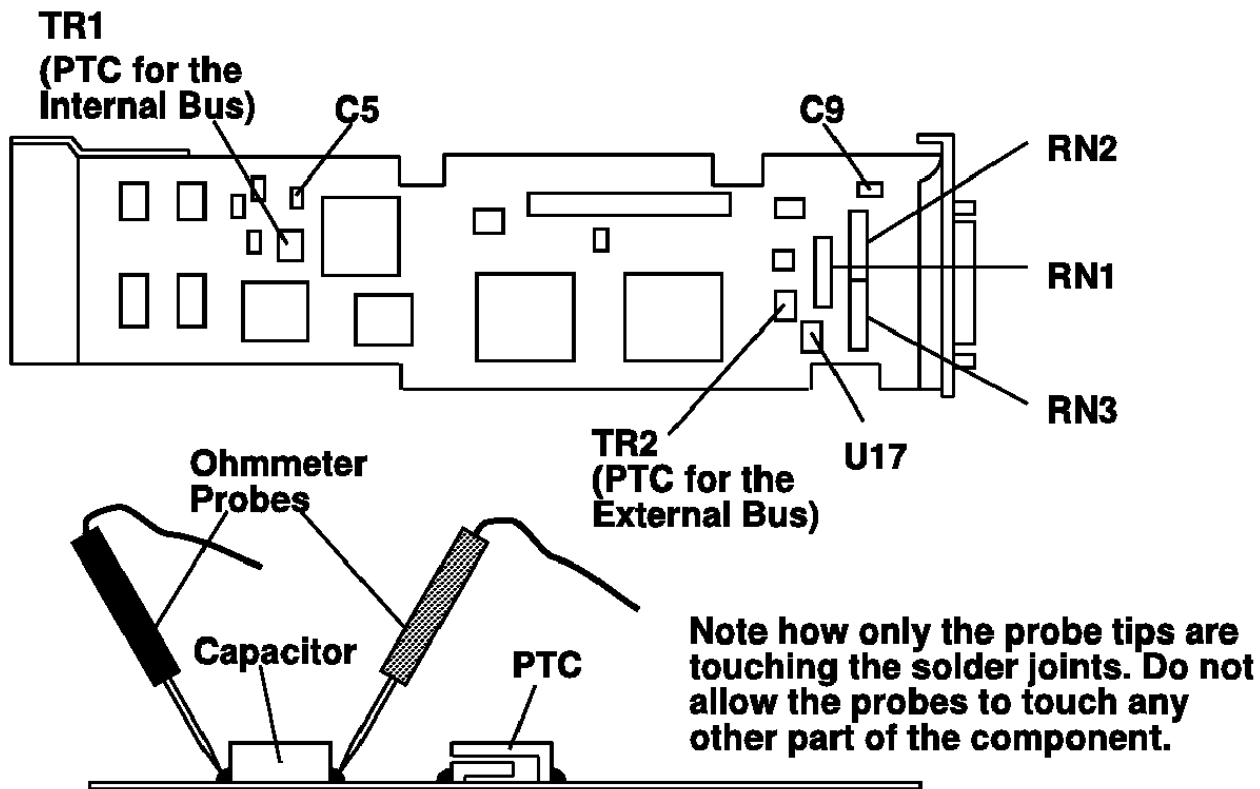

Figure 1-7. SCSI-2 Differential Fast/Wide Adapter/A Test Locations
4. Verify with a digital Ohmmeter, that the internal PTC resistor, labeled TR2, (refer to Figure 1-7 in topic 1.3.25 is cool and in a low resistance state typically less than 1/2 Ohm. Measuring across, be sure to probe both sides of the PTC resistor where the solder joints and board come together. The polarity of the test leads is not important. If necessary, allow the PTC resistor cool and remeasure.
4. Verify with a digital Ohmmeter, that the internal PTC resistor, labeled TR2, (refer to Figure 1-7 in topic 1.3.25) is cool and in a low resistance state, typically less than 1/2 Ohm. Measuring across, be sure to probe both sides of the PTC resistor where the solder joints and board come together. The polarity of the test leads is not important. If necessary, allow the PTC resistor cool and remeasure.